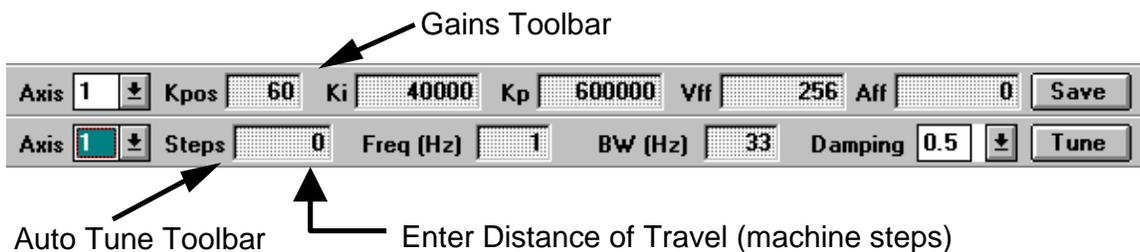

Figure 6-3. The “Gains” and “Auto Tune” Toolbars.
2. From the Tools menu of the Axis Scope screen, select the Gains option and the Auto Tune option. The Gains and Auto Tune toolbars will be displayed on the screen. See Figure 6-3.